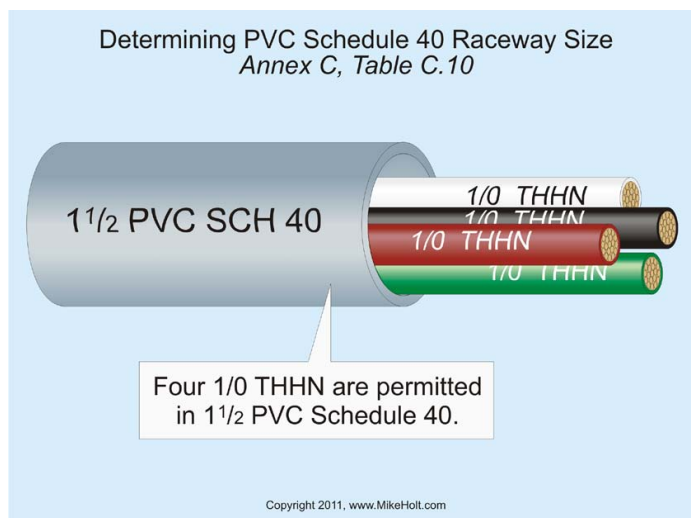

Figure 5-8
**Question:** What's the smallest trade size PVC Schedule 40 raceway that can be used for the installation of four 1/0 THHN conductors? **Figure 5-8**